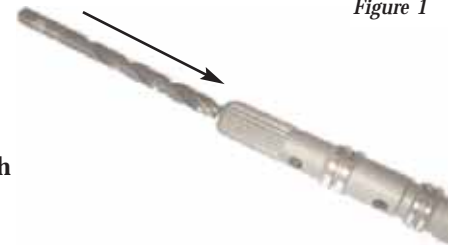

Figure 1
1. Press out the inner tube and end plug by using a  $1\frac{1}{64}$ " (.265" diameter) transfer punch or blunted drill bit (Figure 1).